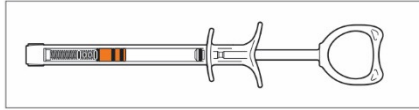

Figure 3 - First Click position
- h. Submerge the free end of the Extension Line in sterile saline solution. **Slowly** draw plunger back to the **first click position** (Figure 3) to fill the syringe.